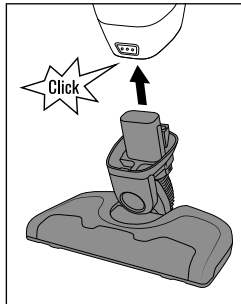

Fig. 2
- ◆ Insert the motor unit ⑧ into the floor nozzle ⑭ until you hear it click into place (see fig. 2).